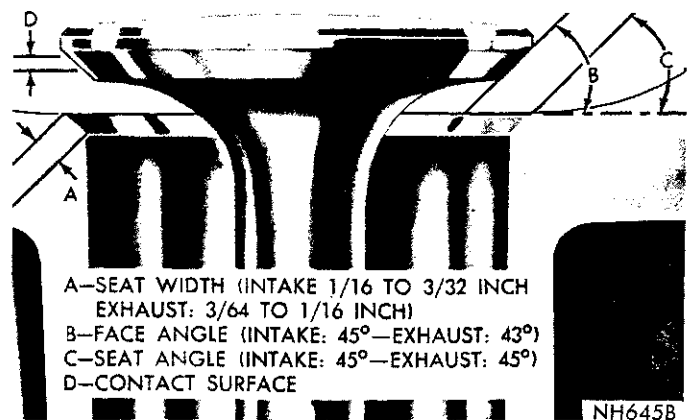

Fig. 13—Valve Face and Seat Angle
(1) The intake and exhaust valve seats and intake valve face have a 45 degree angle. The exhaust valve face has a 43 degree angle. The valve face and valve seat angles are shown in Figure 13.